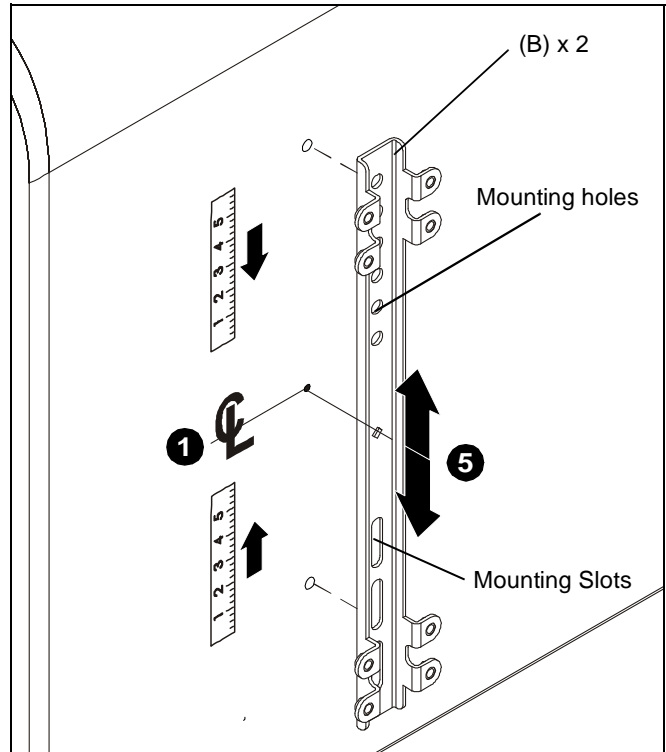
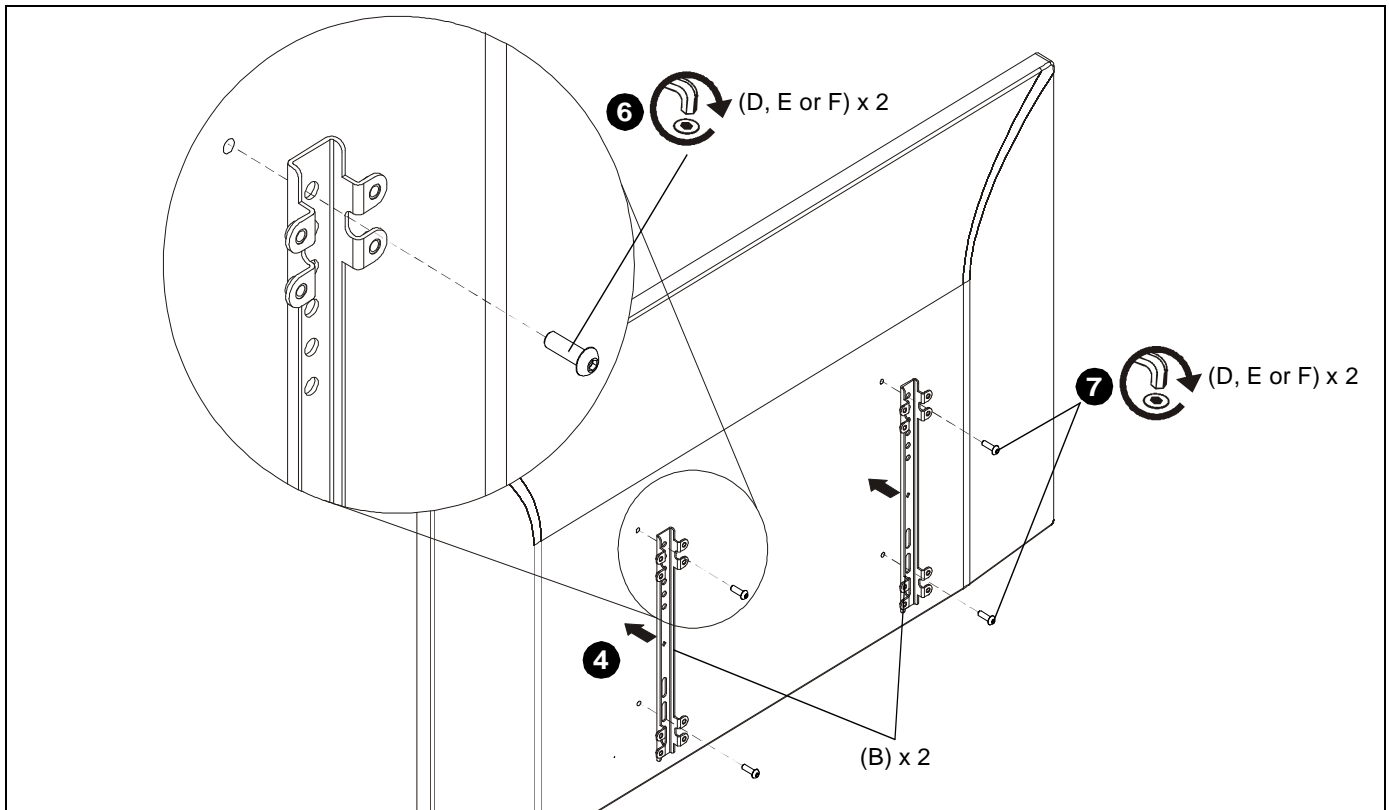

Figure 1
Figure 2
1. Determine and mark the vertical center position between the left side upper and lower mounting holes in display. (See Figure 1)
2. Determine and mark the vertical center position between the right side upper and lower mounting holes in display. (See Figure 1)
3. Orient vertical bracket (B) so that mounting holes are on top and mounting slots are on bottom. (See Figure 1)
4. Align mounting holes in vertical bracket (B) with upper and lower mounting holes in display.
5. Adjust vertical bracket (B) position until mark made in Step 1 aligns with center mark in vertical bracket (B).
6. Secure left side vertical bracket (B) to display using two button head cap screws (D, E or F). (See Figure 2)